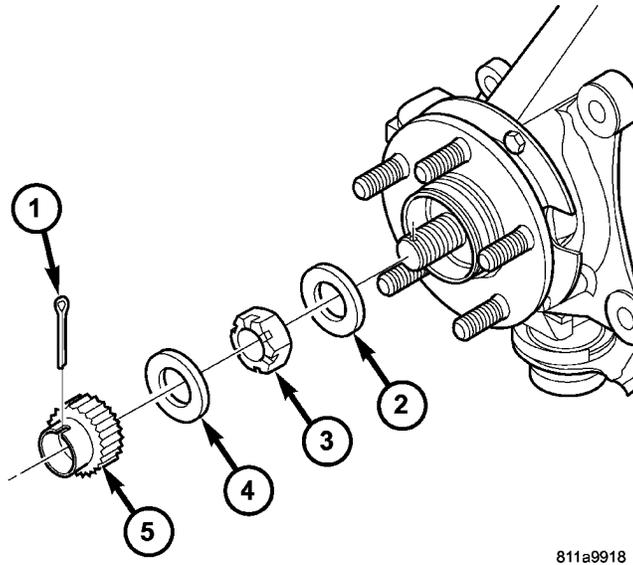

Fig. 6 Halfshaft Retaining Hardware
31. Install the hub nut lock, and a **new** cotter pin. Wrap the cotter pin prongs tightly around the hub nut lock as shown in (Fig. 6).